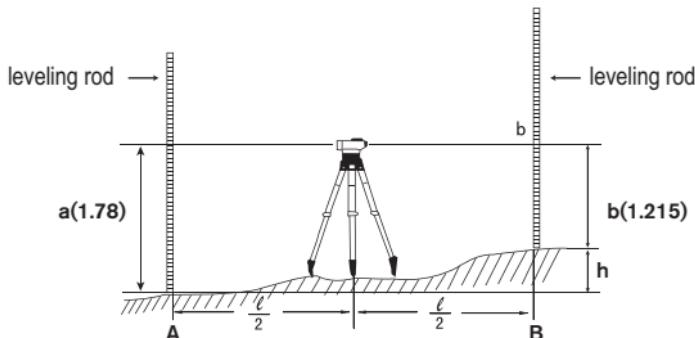

fig.2
1. Place the instrument to the center of point of A and B (see fig2.)